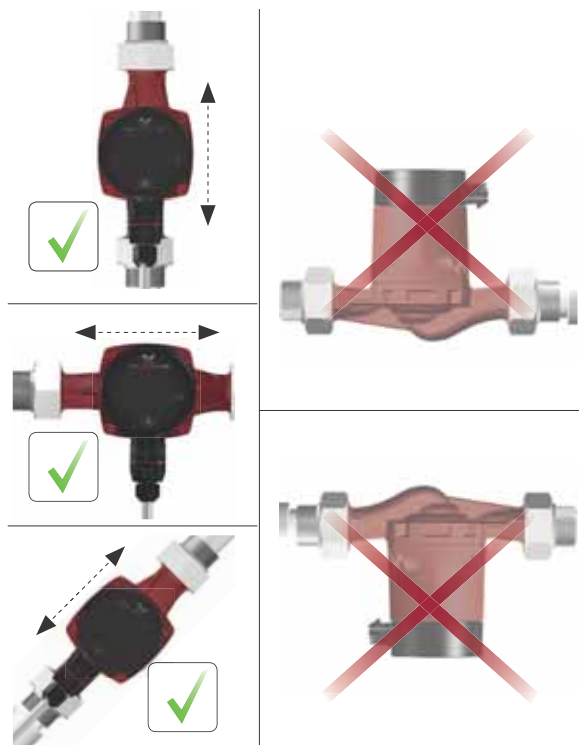

Fig. 1 Mounting the GRUNDFOS ALPHA2 L
- Install the pump with horizontal motor shaft. See figs 1 and 2.